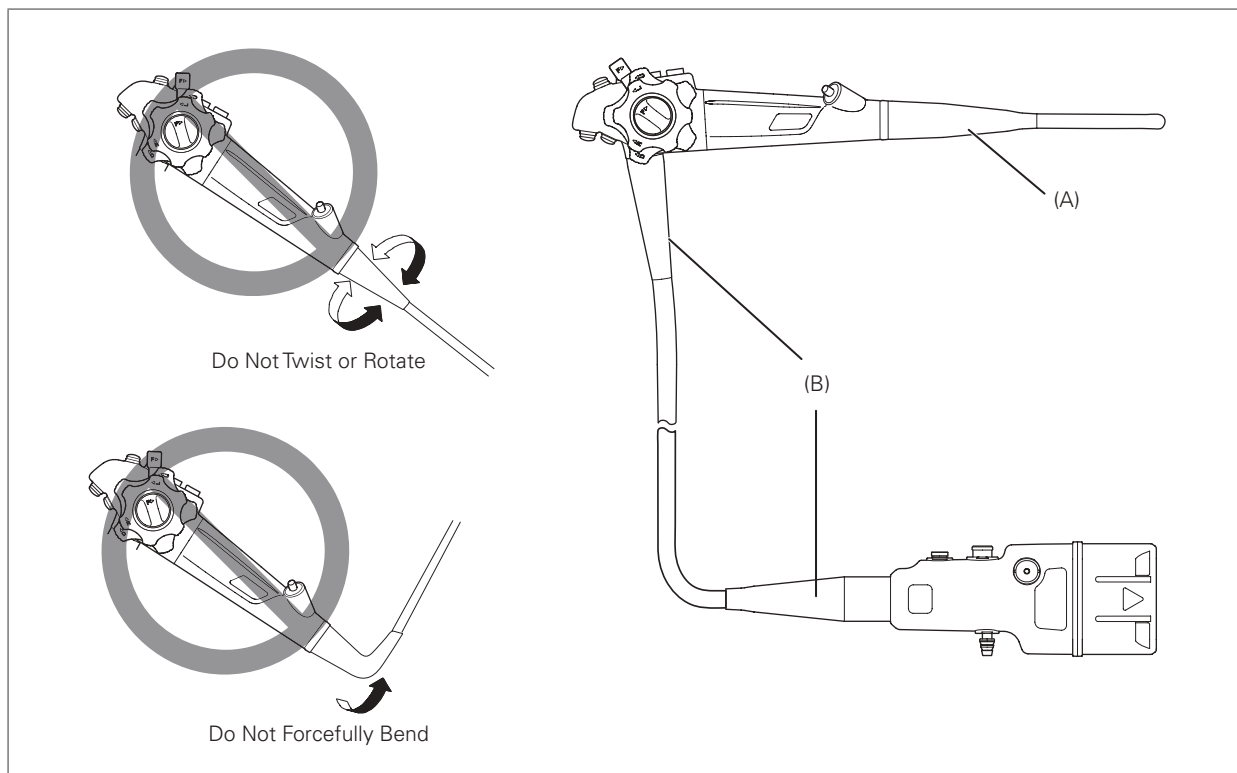

Figure 3.2
- Do NOT excessively twist, bend, or rotate any of the strain relief boots on the instrument (See Figure 3.2 (A) and (B)) to identify the strain relief boots). Doing so may result in instrument damage. Pay special attention to the careful handling of the strain relief boot of the insertion portion (See Figure 3.2 (A)) of the endoscope, because it has a small diameter and is more likely to suffer damage due to mishandling.